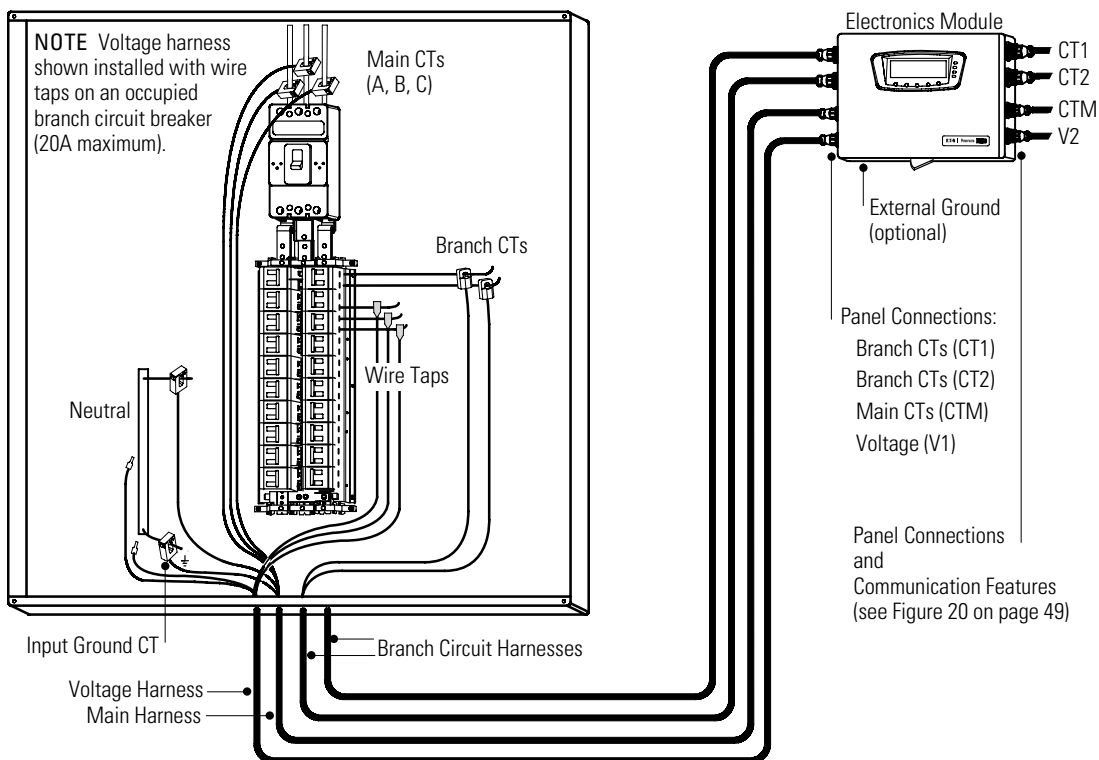

Figure 5. Wiring Overview (Example Installation)
3. Plan the wiring route from the electronics module to the monitored breaker panel(s). See Table 2 through Table 4, Figure 5, and use the following guidelines.
10. On the voltage harness V1 for Panel 1, locate the green and yellow Ground wire. Attach the Ground ferrule to a ground point within the panel. See Figure 5 on page 15.
11. Attach the Neutral wire to the Neutral bar in the panel. See Figure 5 on page 15.